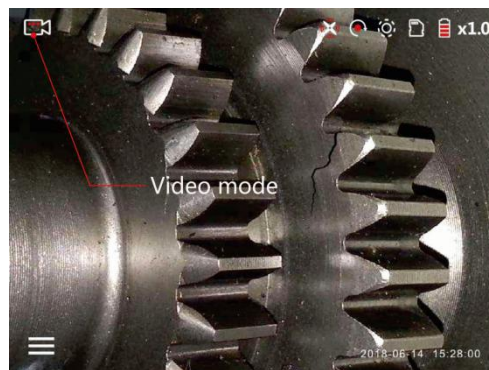

Figure 23
- 2) Video: Press the camera/video switch button  to adjust to the recording mode. The icon in the upper left corner of the screen shows the recording mode (Fig. 23). Press the camera/record button on the back of the instrument  to start recording. At this time, there is a recording time prompt in the upper left corner of the screen. In the video mode, long press the camera/record button  to capture the video during the recording process, and short press to end the recording.